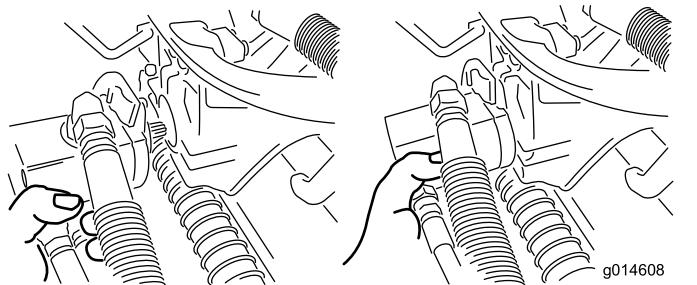

Figure 51
- 3. Move the motor to the storage location on the front of the suspension arm (Figure 51).